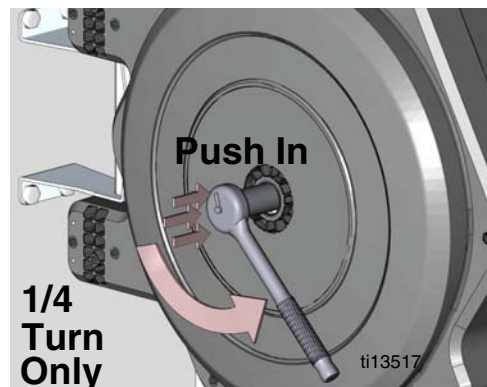

FIG. 4
- b. Push in on ratchet. Grasp handle firmly with both hands; then turn and ratchet counter-clockwise, 1/4 turn ONLY (FIG. 4).